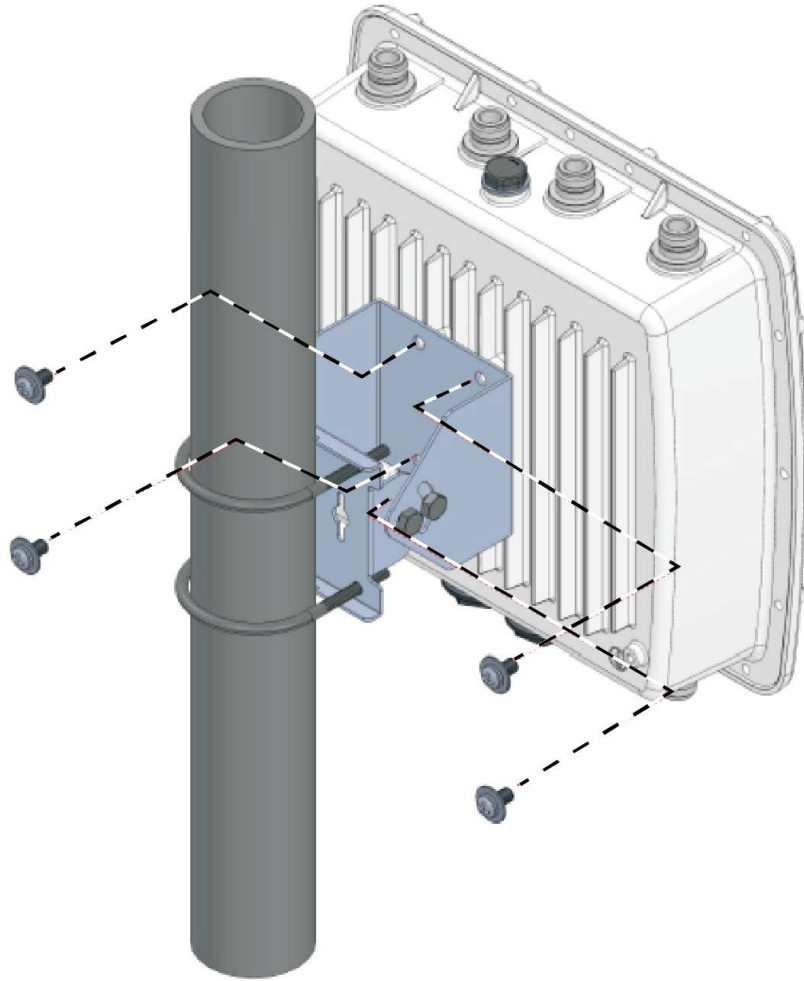

Figure 33. Attaching the Access Point to the Pole-Mount Brackets
3. Attach the access point to the pole-mount bracket with the screws using a Phillips-head screwdriver. See Figure 33 on page 65.